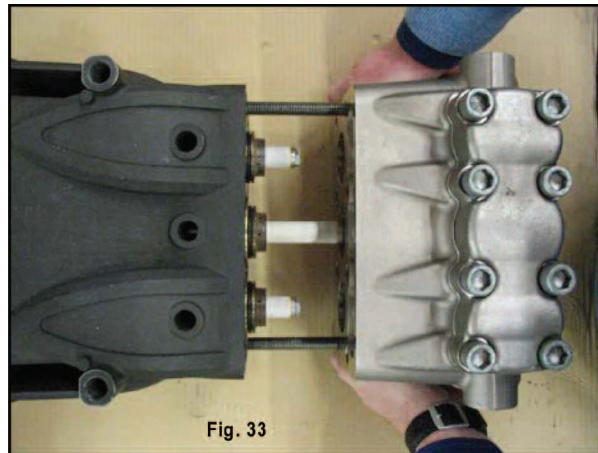

Fig. 33
2. Using two screws - p/n F27726000, fasten the casing as indicated in fig. 33. Position the complete head, making sure hat it is centered only on the central piston.